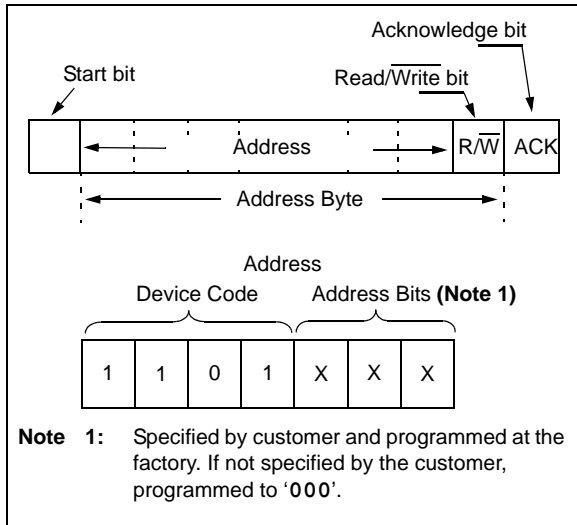
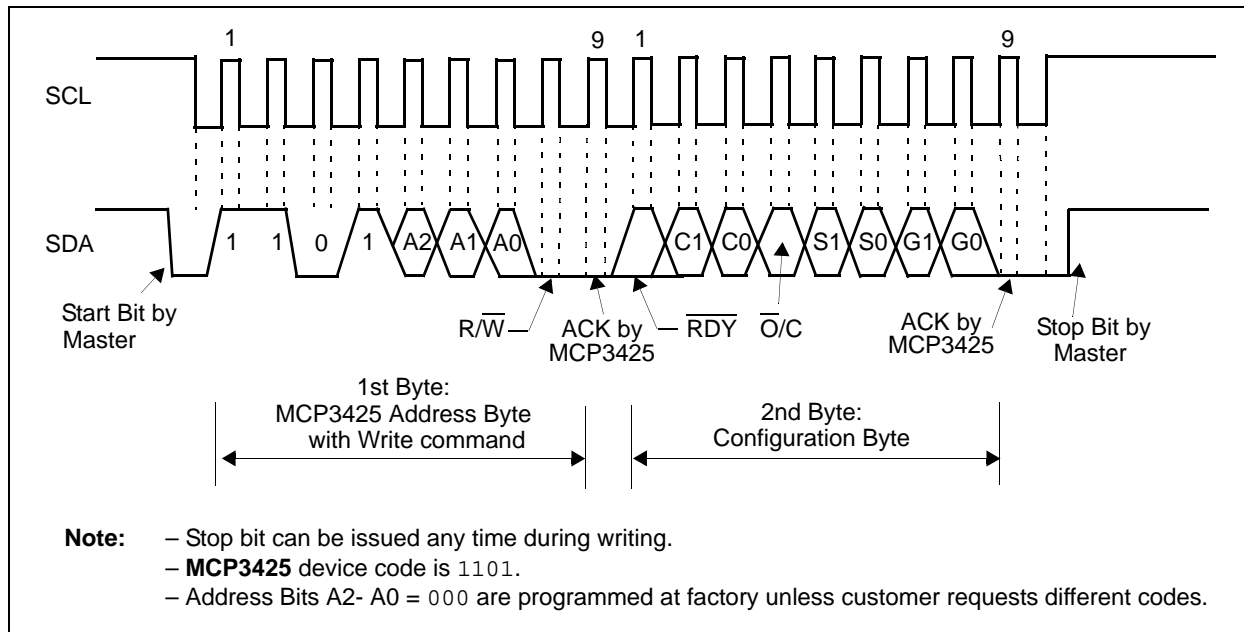
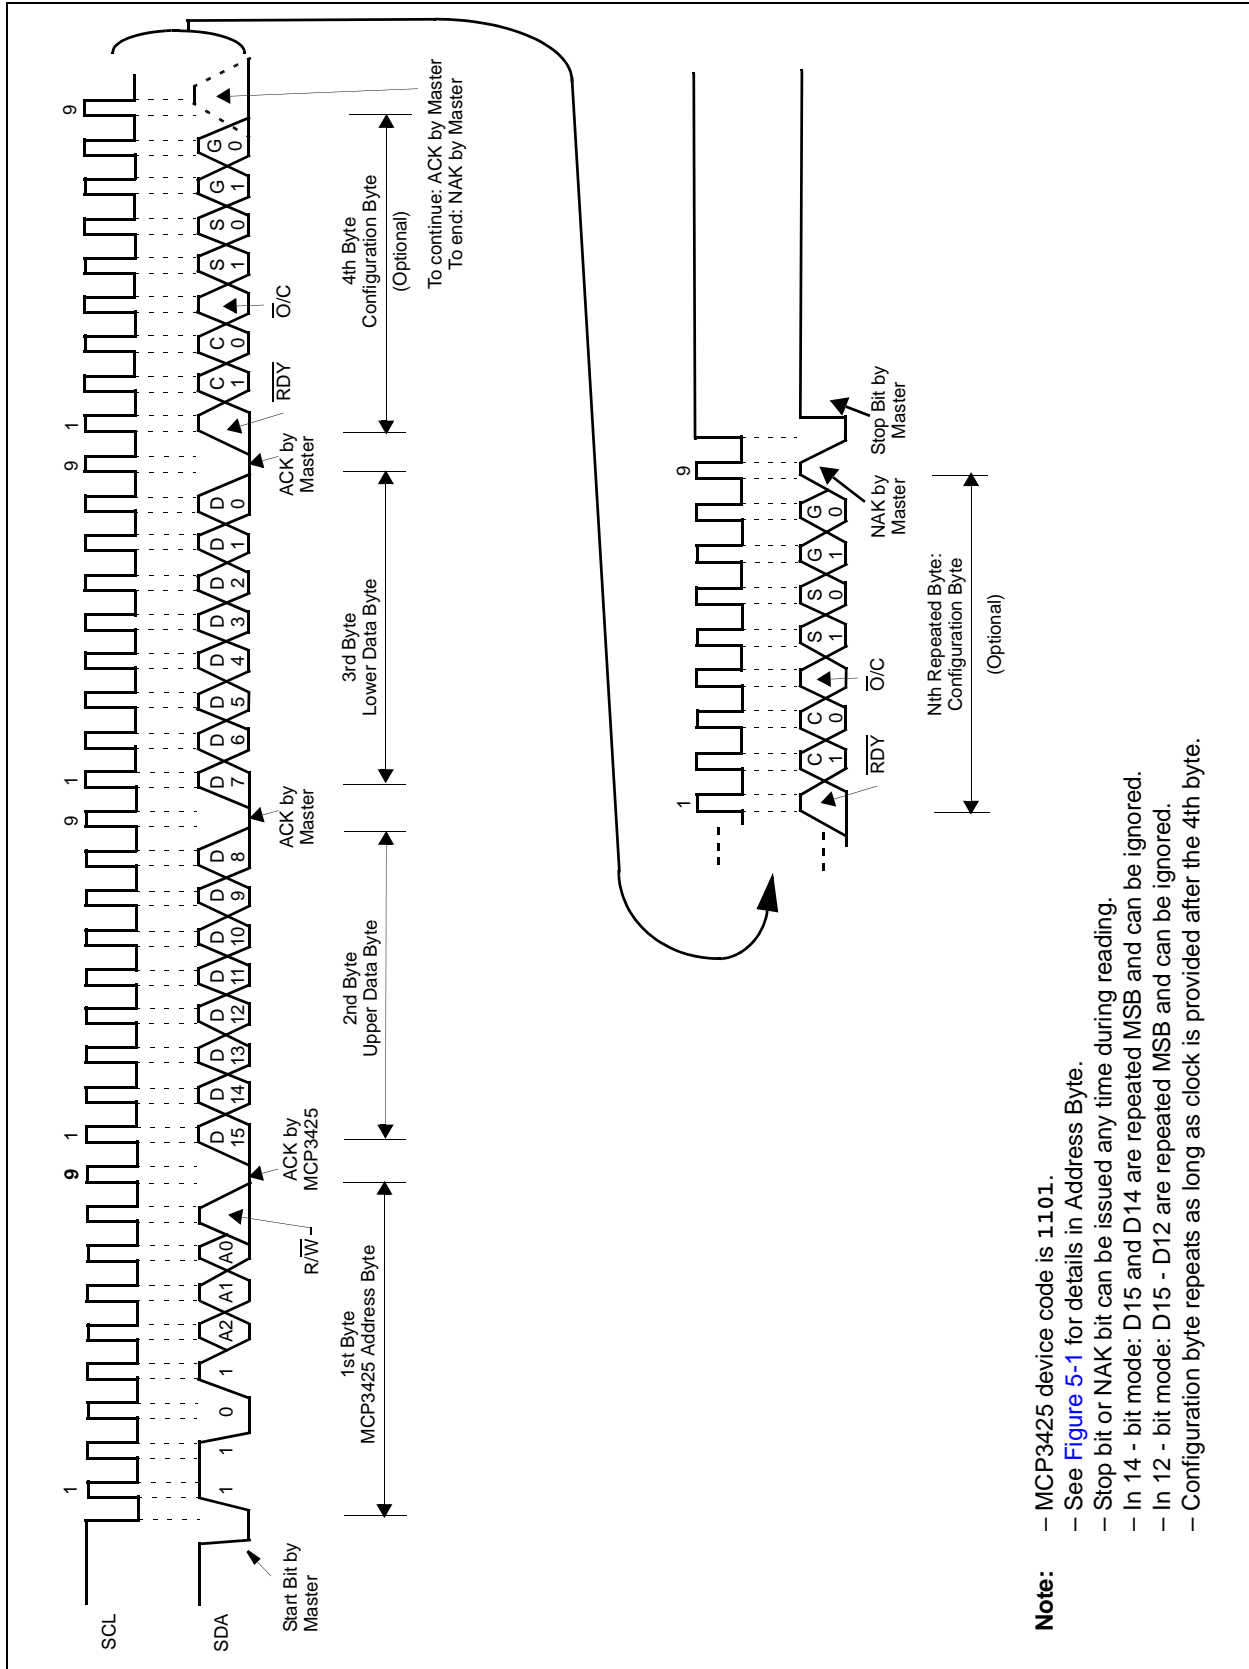

FIGURE 5-1: MCP3425 Address Byte.
FIGURE 5-2: Timing Diagram For Writing To The MCP3425.
FIGURE 5-3: Timing Diagram For Reading From The MCP3425.
The user operates the device by setting up the device configuration register using a write command (see Figure 5-2) and reads the conversion data using a read command (see Figure 5-3). The device operates in two modes: (a) Continuous Conversion Mode or (b) One-Shot Conversion Mode (single conversion). This mode selection is made by setting the $\overline{O/C}$ bit in the Configuration Register. Refer to Section 5.2 “Configuration Register” for more information.
Figure 5-3 shows an example of reading the conversion data. The user can rewrite the configuration byte any time for a new setting.
Figure 5-1 shows the address byte. Figure 5-2 through Figure 5-3 show how to write the configuration register bits and read the conversion results.
Figure 5-3 shows the timing diagrams of the reading.
- See Figure 5-1 for details in Address Byte.